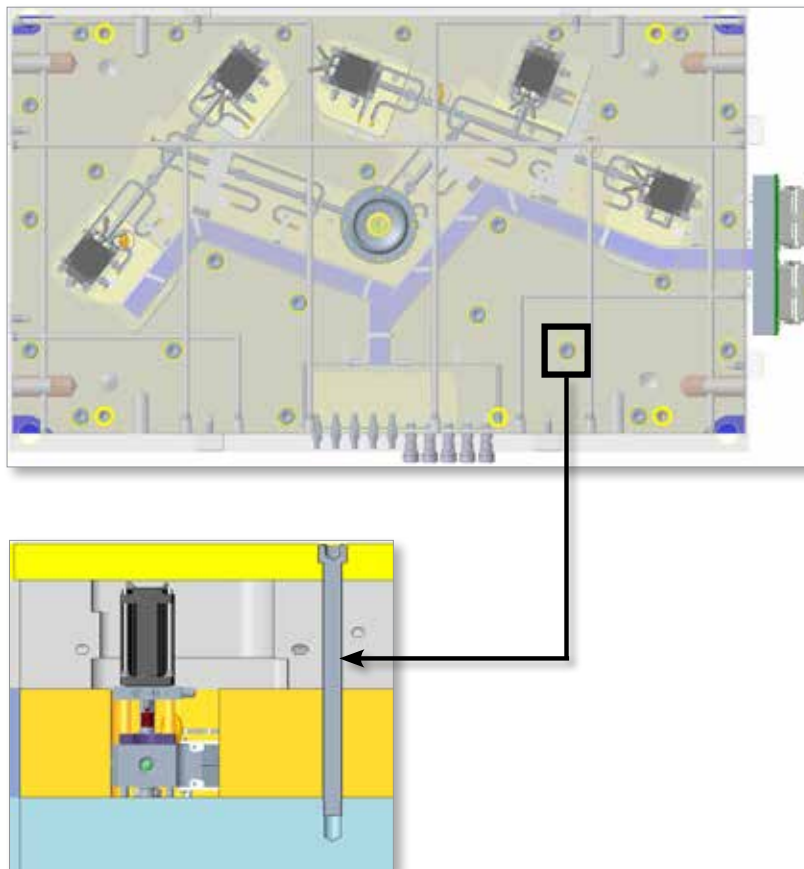

Figure 6-13 Remove B screws
3. Remove the B screws from the actuator plate and / or clamp plate. See Figure 6-13.